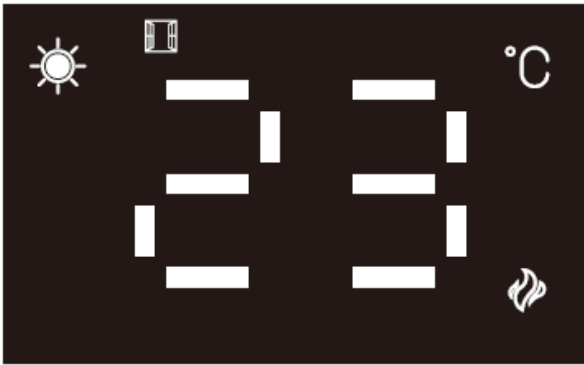

Fig.16: Window open detection function enabled but not activated or triggered
7. **Window Open Detection Function:** If the ambient temperature drops by 5°C within 20 minutes, the Window Open Detection function will activate. The Window Open Indicator  light will illuminate, and the product will stop heating. Press and hold the On/Off button  for 3 seconds to enable or disable the Window Open Detection function (Fig.16). When the function is turned off, the Window Open Indicator  light will turn off, and the product will resume heating. (**Note: When the Window Open Detection function is enabled and triggered, causing the product to stop heating, the product will remain in standby mode and will not resume heating unless manually restarted to enter heating mode.**)